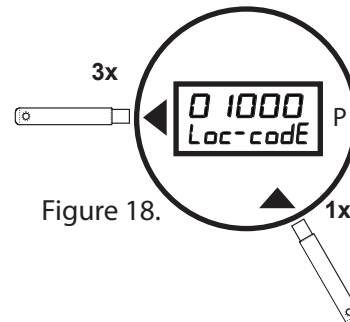

Figure 18.
- Pass the wand on the ◀ three times. The second digit from the left will flash (Figure 18).
- Pass the wand on the ▲ once. The display will increment from 0 to 1 (Figure 18).